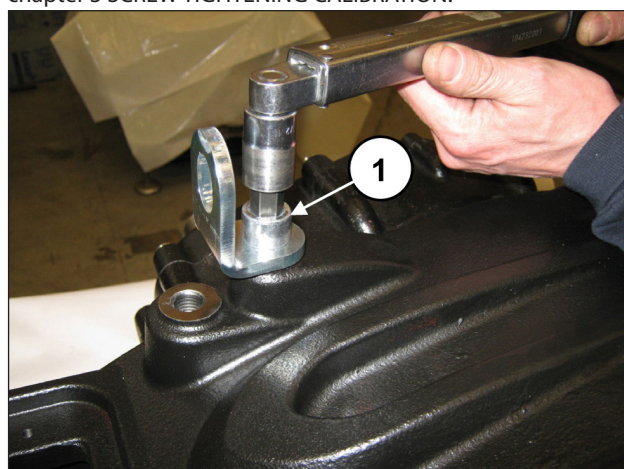

Fig. 99
Apply plugs and lifting brackets with the use of M16x30 screws (pos. ①, Fig. 99).